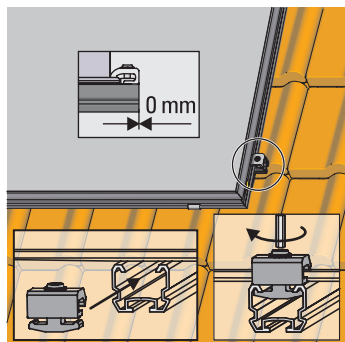

Fig. 3-18 Check correct mounting position, slide the individual clamping block into the mounting profile and screw down tightly
4. Move the flat solar panel sideways until the left-hand outer ends of the two mounting rails project approx. 25 mm beyond the solar panel's edge (Fig 3-18). Slide the individual clamping block sideways into the mounting profile rail (flush to the end) and screw down tightly using an Allen key (Fig 3-18).